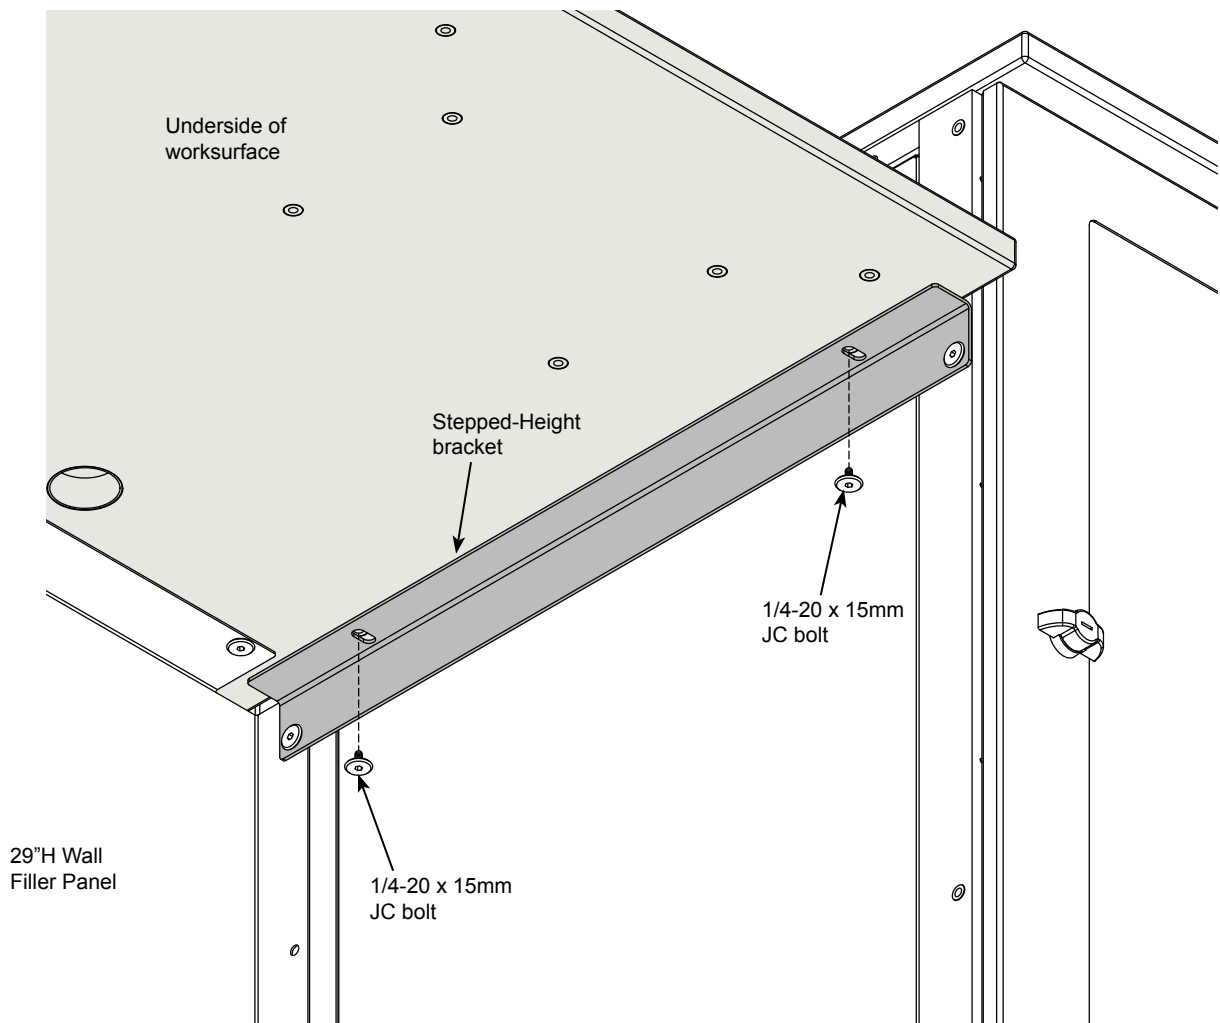

Figure 2
1. Set the work surface onto the installed 29" wall filler panel(s) and the stepped-height bracket as shown in **Figure 2**.
2. Align the mounting holes and attach the work surface to the bracket with (2) 1/4-20 x 15mm JC bolts.